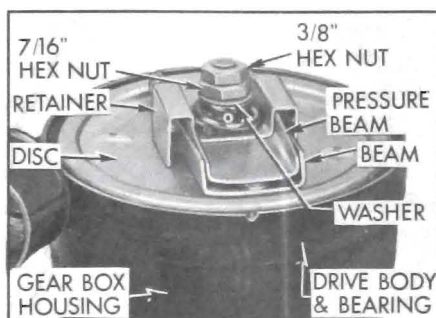

Figure 11-15—Antenna Drive with Cover Removed
3. Remove the 7/16" hex nut and washer. See Figure 11-15.